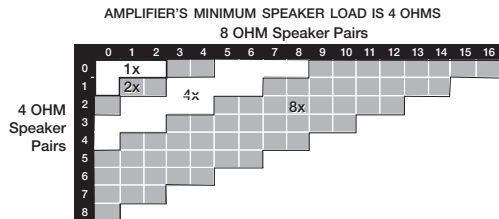
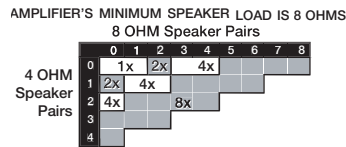
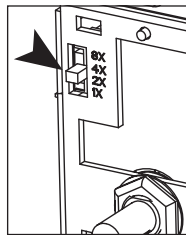

Figure 4
Figure 5
Figure 7
3. Read the correct switch position from the charts on page 7. See **Figure 4** if your amplifier can drive a 4-ohm load. See **Figure 5** if your amplifier must have an 8-ohm speaker load.
4. Set the switches on all of the controls to the same position (1x, 2x, 4x, or 8x). See **Figure 7**.
5. Set the Impedance Magnification Switch (See **Figure 7**) as determined by the IM charts (**Figures 4** and **5**).